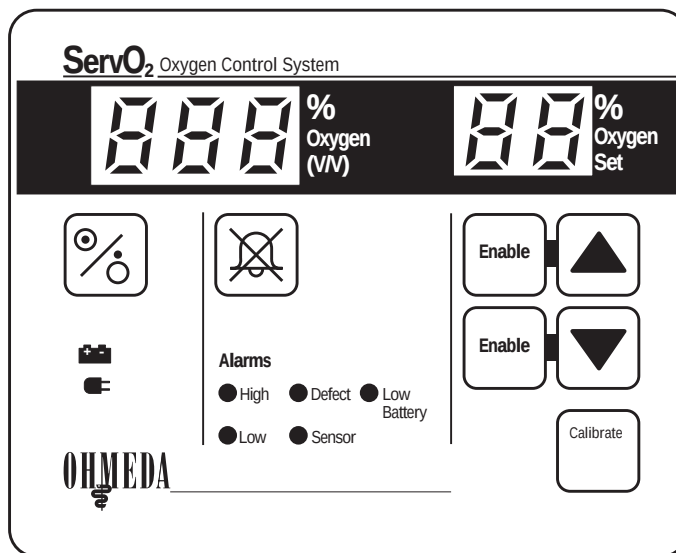

Figure 1-1
4. Plug the power cord into the wall outlet. Check that the Line indicator is lit on the front panel (See Figure 1-1).